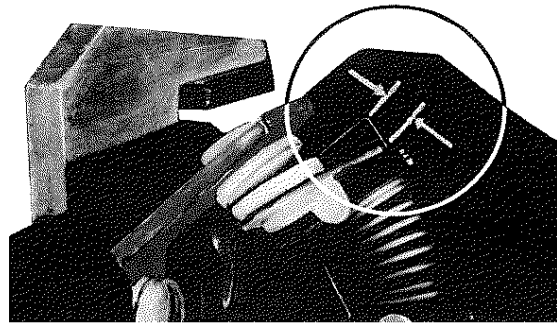

Figure 3
- With all power removed, check that the electrical interlock (43) has the proper follow-up. With new electrical interlock contacts, the moving contacts (46) should provide at least 1/16" follow-up on each stationary contact when the contact arm reaches its limit of travel; either completely closed or completely opened (Fig. 3).